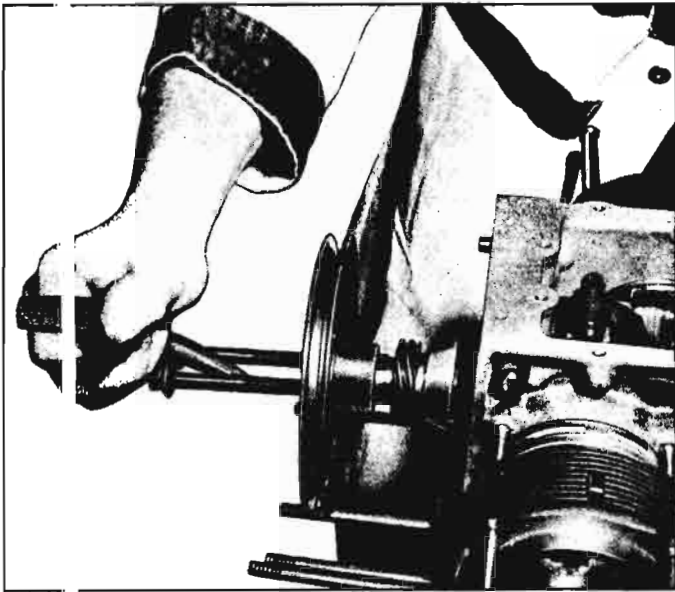

Fig. 6A-43—Turning Crankshaft, using Crankshaft Pulley
34. Using a bar between the bolts on crankshaft pulley, (fig. 6A-43) turn crankshaft, positioning con-